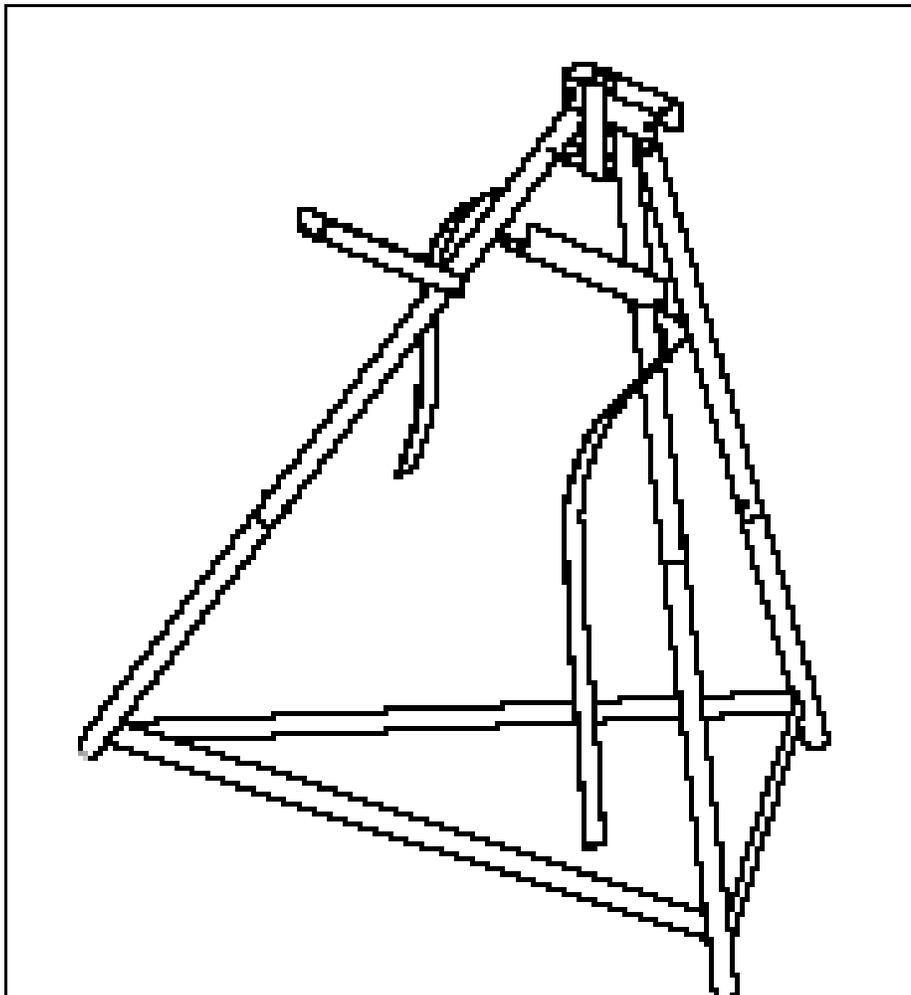

Figure 5
- (6) Fuel Can Stand. Figure 5. The fuel can stand supports a standard plastic fuel can in an inverted position in order to gravity feed fuel to the heater. The stand disassembles and folds for packing.